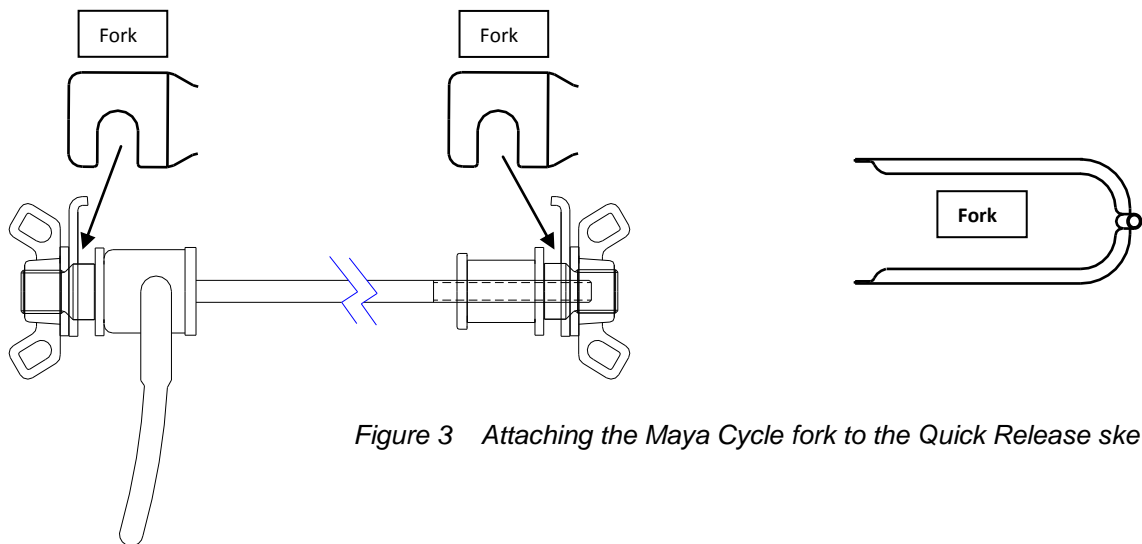

Figure 3 Attaching the Maya Cycle fork to the Quick Release skewer
- f) Assemble axle bracket, steel washer (small opening) and lock wing nut on both sides. See Fig. 3.